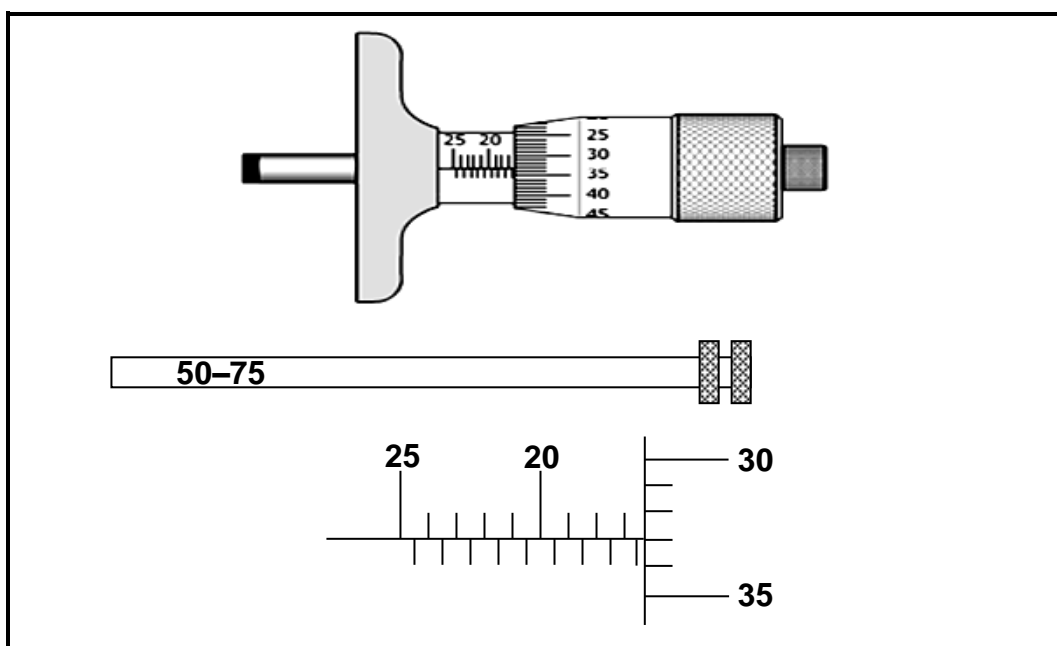

FIGURE 7.3
- 7.3 What is the reading on the depth micrometer shown in FIGURE 7.3 below?